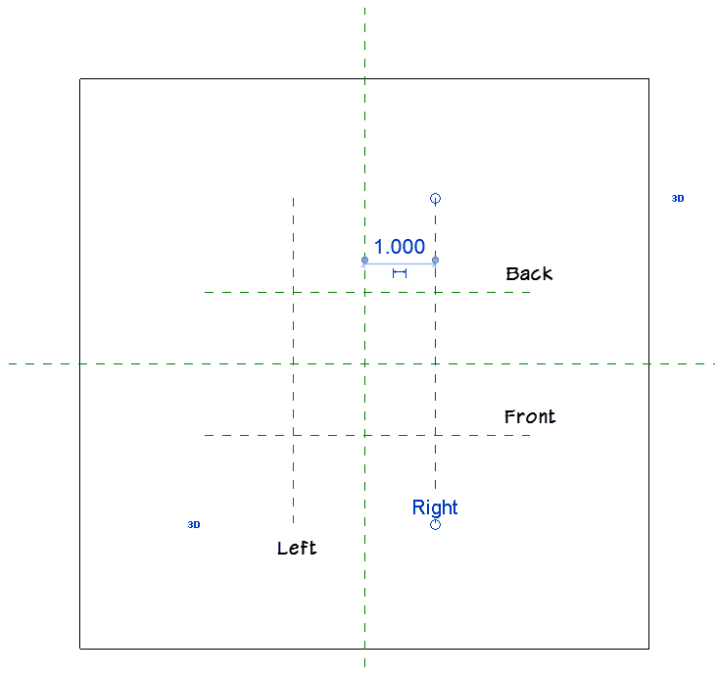

Figure 2—Create and name the Reference Planes
5. Name each one: **Left**, **Right**, **Front** and **Back** (see Figure 2).